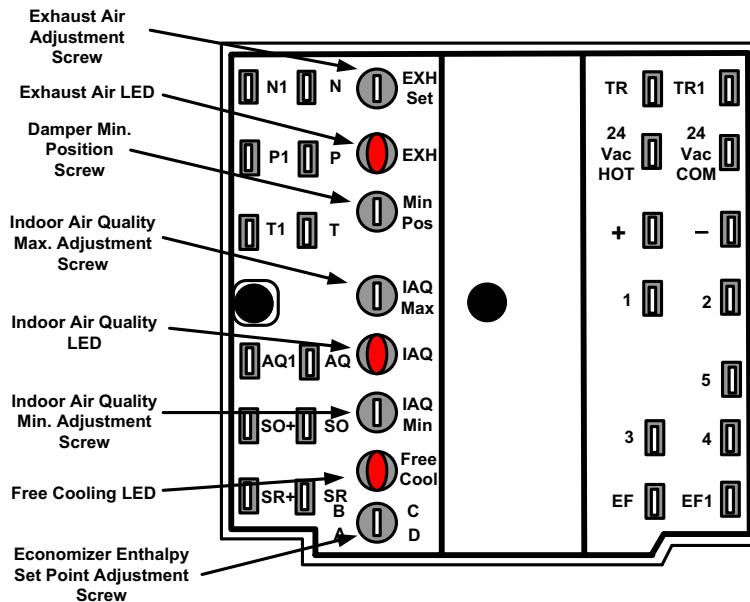

Figure 25: Honeywell Economizer Control W7212
- For a single enthalpy operation carefully turn the set point adjusting screw (found on the damper control module) to the "A", "B", "C" or "D" setting corresponding to the lettered curve of the Enthalpy Set Point Adjustment Figure 25.